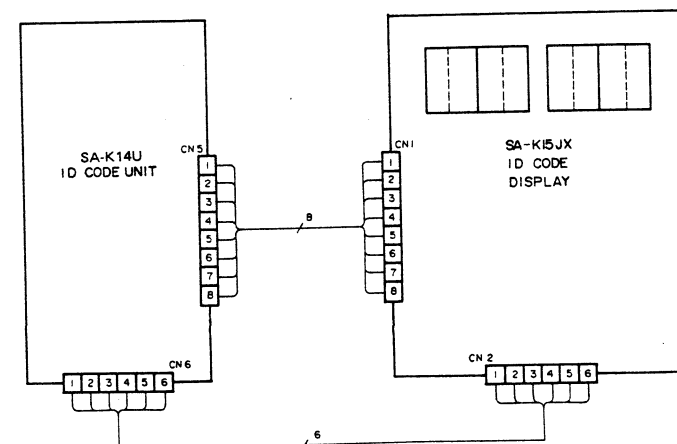

Fig. 1-10
1. Connect the SA-K14U and SA-K15JX (ID code display - optional) to the BR-7030E by connecting the 8-pin connector of the SA-K15JX to CN5 of the SA-K14U and the 6-pin connector to CN6 of the SA-K14U. (See Fig. 1-10)